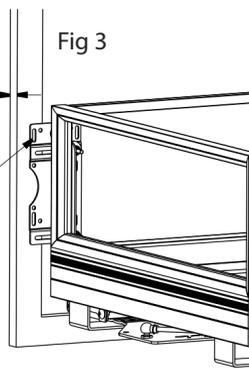

Fig 3
- 3) Ensure that the door mounting brackets allow the mounting screws to engage a part of the door that is at least 3/4" thick (On a 5-panel door, this would be the outer side pieces, or styles). Inset doors would move the brackets toward the center of the unit while full overlay doors would require the brackets to move outward (See Fig 3). Use the double sided tape provided to temporarily attach the door to the mounting brackets.
- 4) Carefully open the unit, being sure not to disengage the double sided tape. Once the unit is open, use the #6 x 1/2" flat head screws to permanently attach the door to the unit. All (8) screws must be used for proper function. Space screws at opposing corners as much as possible.